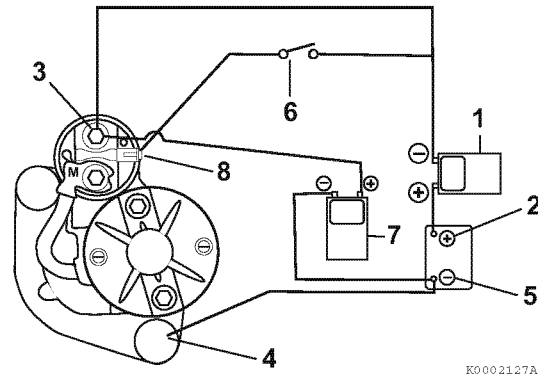

Figure 11-35
2. Connect an ammeter **(Figure 11-35, (1))** in series between the battery positive (+) terminal **(Figure 11-35, (2))** and the main positive (+) terminal **(Figure 11-35, (3))** on the starter motor.
3. Connect a wire lead between the mounting base of the starter motor **(Figure 11-35, (4))** and the battery negative terminal **(Figure 11-35, (5))**.
4. Connect a voltmeter **(Figure 11-35, (7))** to the battery negative (-) terminal **(Figure 11-35, (5))** and the main positive (+) battery terminal **(Figure 11-35, (3))** on the starter motor.
5. Install a switch **(Figure 11-35, (6))** in a circuit between the battery positive (+) terminal **(Figure 11-35, (2))** and the starter magnetic switch (solenoid) terminal **(Figure 11-35, (8))** on the starter motor.